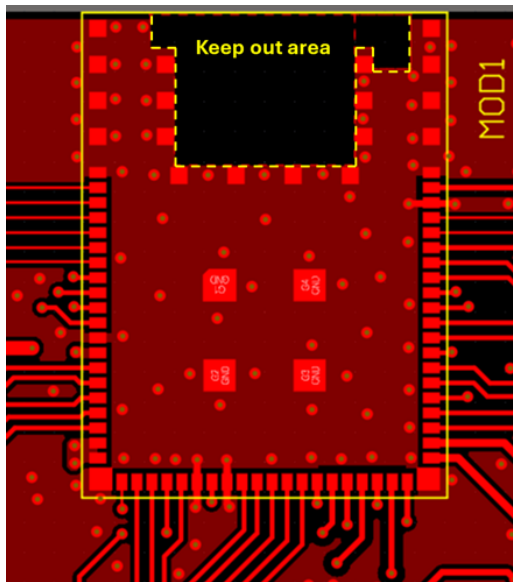

Figure 11: Integrated antenna variant layout keep out area
2. To maintain antenna radiation efficiency, you should reserve a keep-out area on all PCB routing layers, as shown in Figure 11. For detailed dimensions, refer to Figure 9.